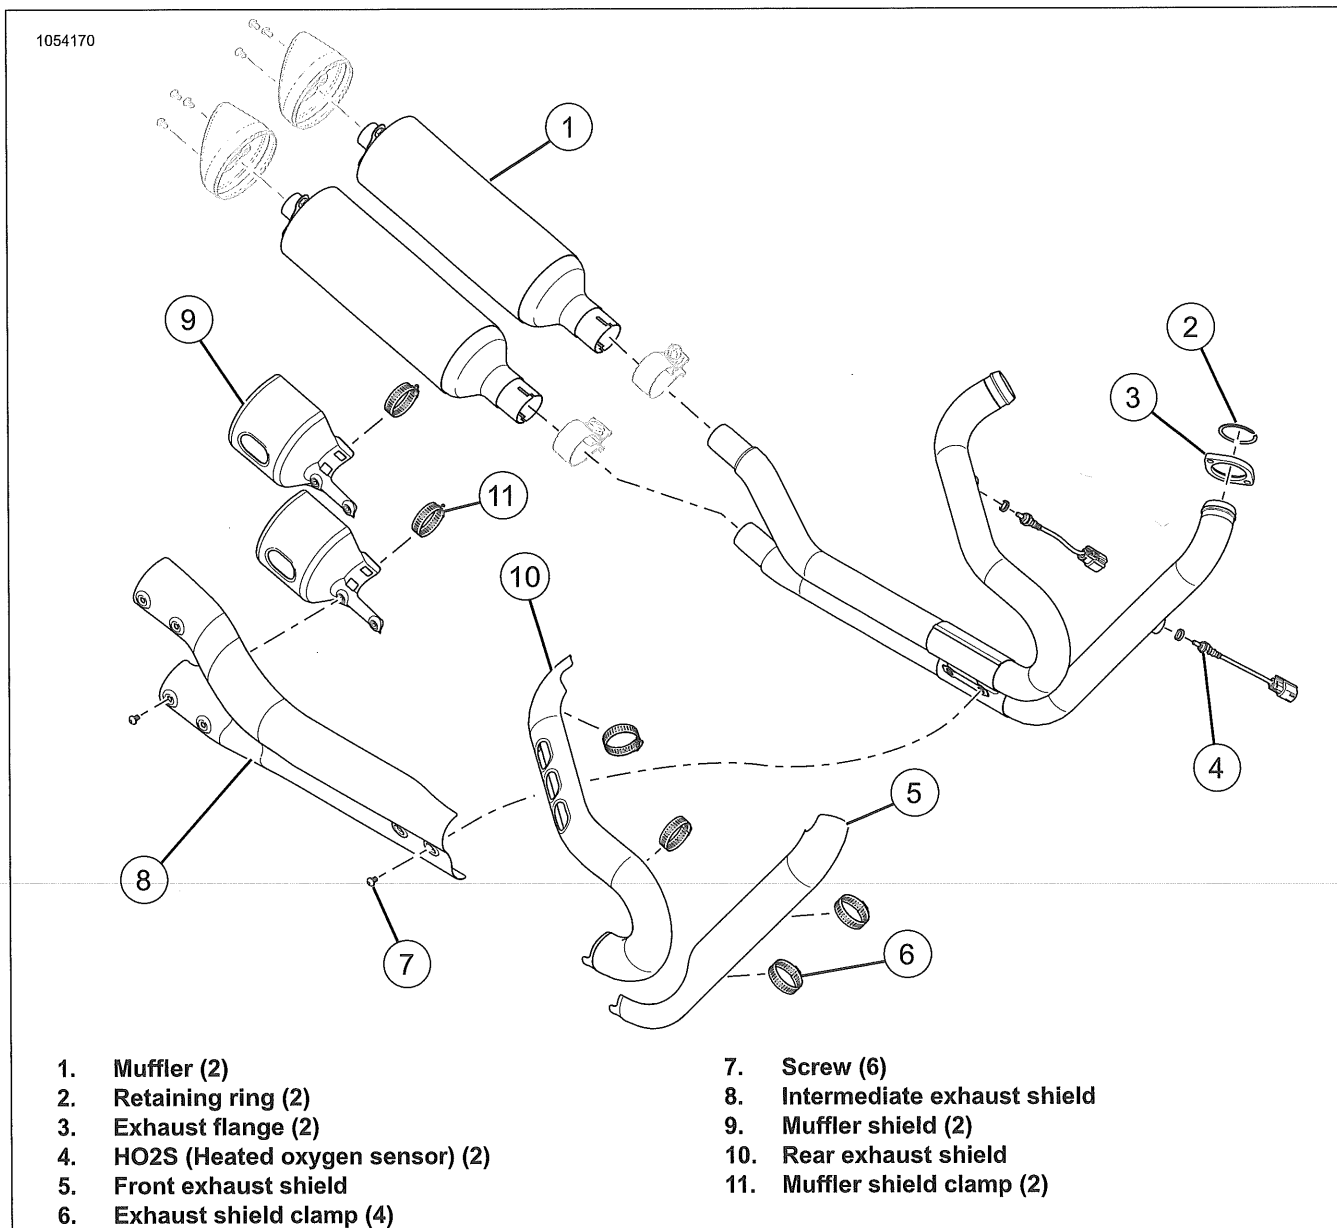

Figure 6-45. Exhaust System: FXFB, FXFBS
- See Figure 6-45. Remove HO2S (4). See HEATED OXYGEN SENSORS (HO2S) (Page 6-31).
- Remove screws (7).
- Remove intermediate exhaust shield (8).
- Remove muffer (1). See MUFFLERS (Page 6-32).
- Remove retaining ring (2).
- Remove exhaust flange (3).
- See Figure 6-45. Install exhaust flange.
- Install exhaust flange (3).
- b. Install Retaining ring (2).
2. Install muffler (1). See MUFFLERS (Page 6-32).
- a. Apply anti-seize lubricant to screws (7).